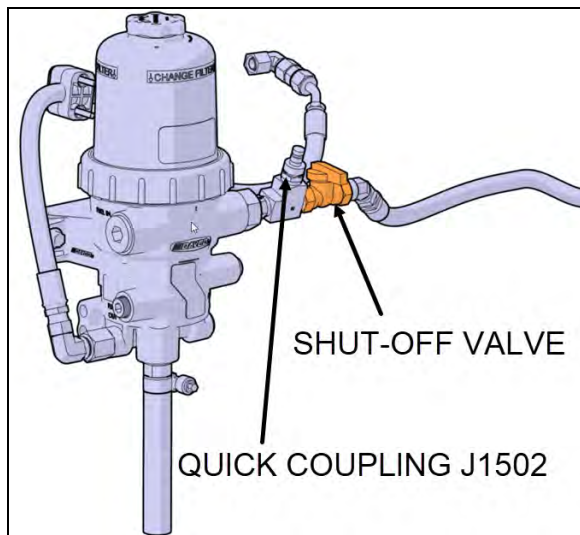

FIGURE 7: DAVCO FUEL PRO 386 WITH MANUAL SHUT-OFF VALVE
The Fuel Pro 386 (Figure 7) fuel processor is installed between the fuel tank and the secondary fuel filter and is used as the primary fuel filter. This system also serves as a water separator and is equipped with heating for winter conditions. Davco Technical Manual F1387 is available on Prevost Technical Publications site.
2. Close the shut-off valve on the “fuel in” side of the fuel filter (FIGURE 7).
3. Remove the vent cap & vent cap O-ring (A).
4. Open the drain valve (I) a min of 3 turns and drain the fuel completely from the unit.
6. Untighten the collar (E), remove clear cover with filter spring (D), filter element and cover O-ring (B).